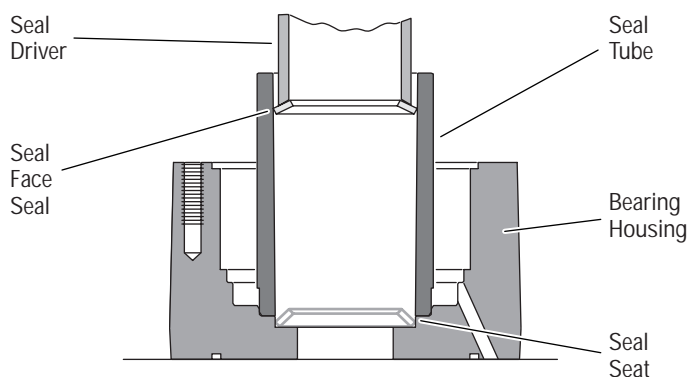

Figure 11
**21** Place bearing housing on smooth flat surface with largest open end of housing up. Apply petroleum jelly to shaft face seal. Install seal in seal seat. Seat seal properly in groove (see Figure 11). A damaged or improperly installed shaft face seal could cause internal lubrication loss and subsequent parts wear.